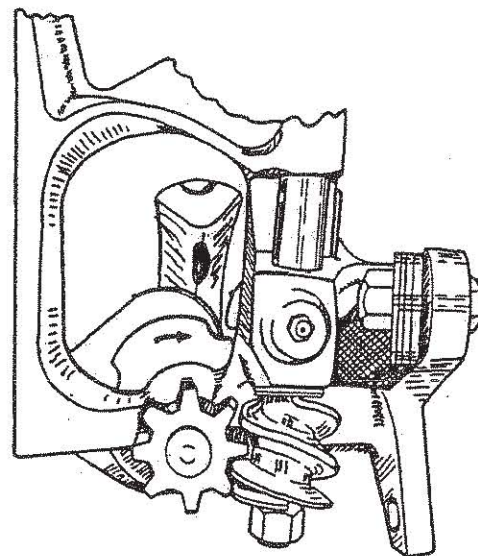

Fig. 17
a. Trip the knotter clutch and swing the needles up through the bale chamber by turning the flywheel counterclockwise by hand. The needles should be adjusted left or right so that there is 0 to $\frac{1}{32}$ " clearance between the needle and the knotter hook pinion, Fig. 17. Adjust by sliding the needle left or right on the needle yoke.